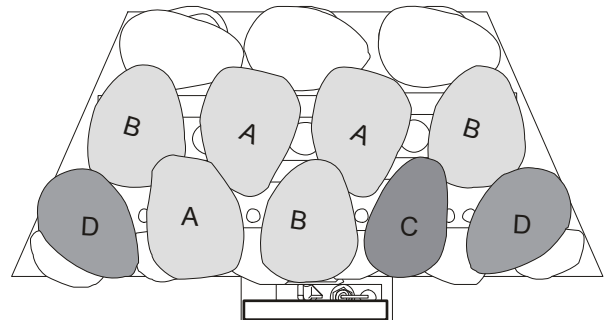

Figure 13
3. Place pebbles **A, B, C &** in position as shown in **Figure 13**.